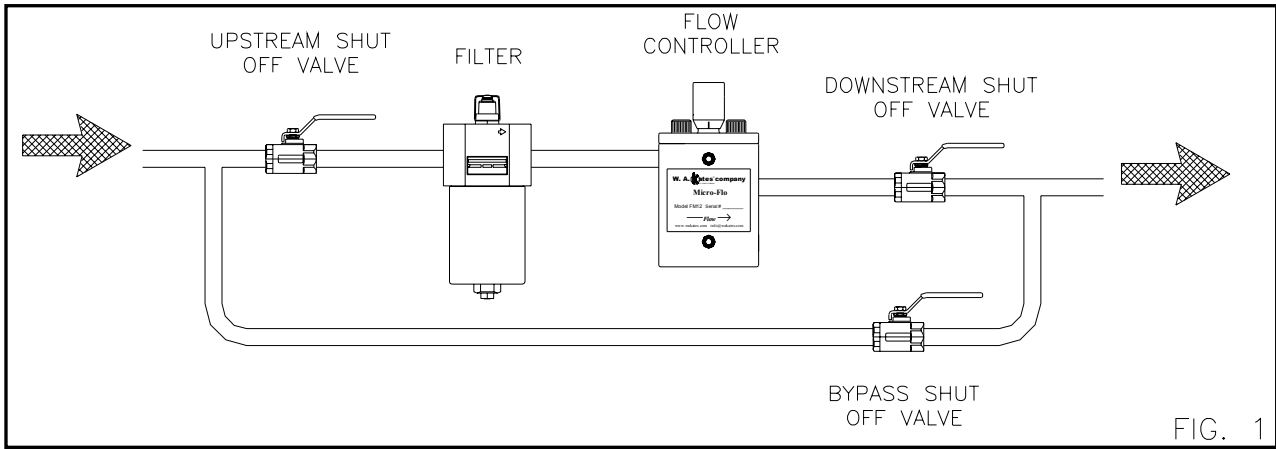

FIG. 1
2. Upstream and downstream shutoff valves and a bypass valve should be installed (see fig. 1) so that the controller may be opened for inspection and cleaning without requiring complete system shutdown.
1. It is not necessary to remove the controller from the line to clean. If installation includes proper shutoff and bypass valves, operate these and take the controller off stream or control. (See fig. 1)